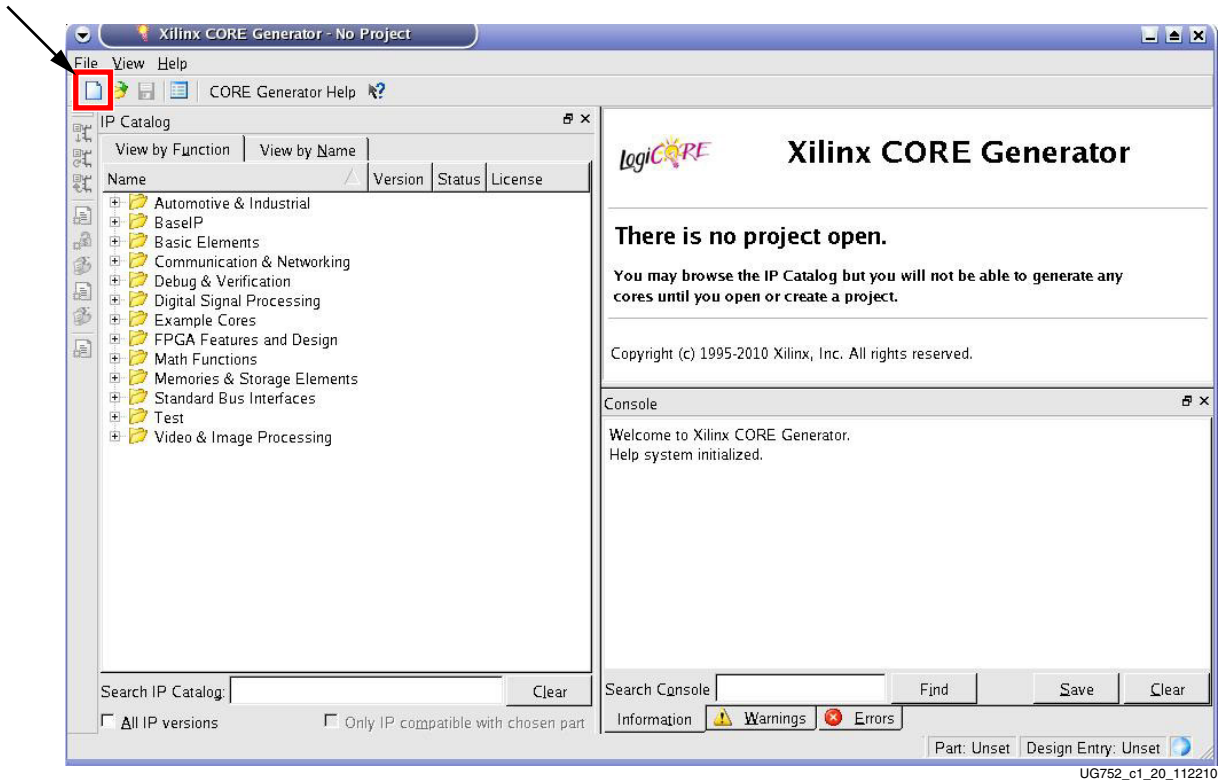

Figure 1-19: Open New Project
4. When the Core Generator window appears on screen, click the **New Project** icon (highlighted in Figure 1-19).